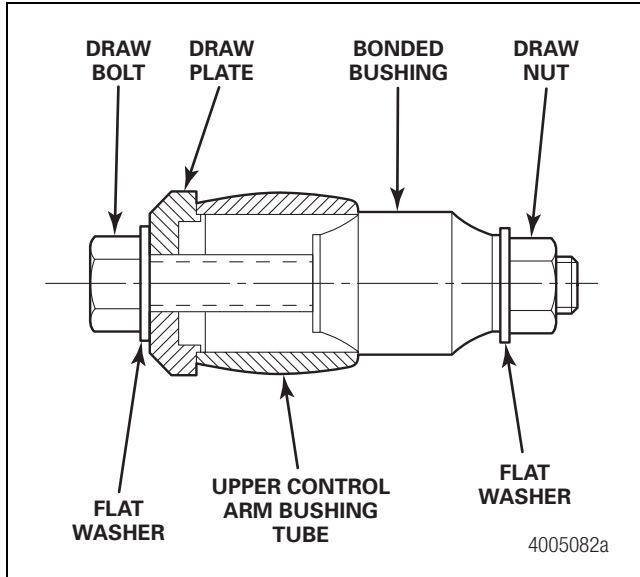

Figure 7
12. Place the draw plate onto the inside surface of the upper control arm bushing tube. Figure 7.